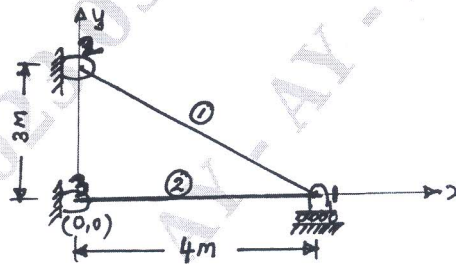

Fig Q3(c)
- c. For the truss configuration shown in Fig Q3(c), determine the stiffness values K_{11} , K_{12} , K_{22} and K_{66} of the global stiffness matrix. Assume $E = 210\text{GPa}$, $A = 6 \times 10^{-4}\text{m}^2$ for both the truss member. (08 Marks)